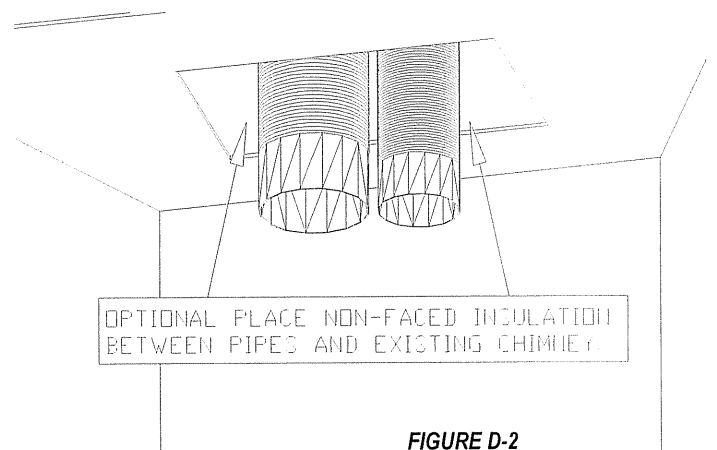

FIGURE D-2
* **OPTIONAL:** We recommend placing non-faced fiberglass batting insulation between the pipes and existing chimney to prevent heat loss up the chimney. (SEE FIGURE D-2)